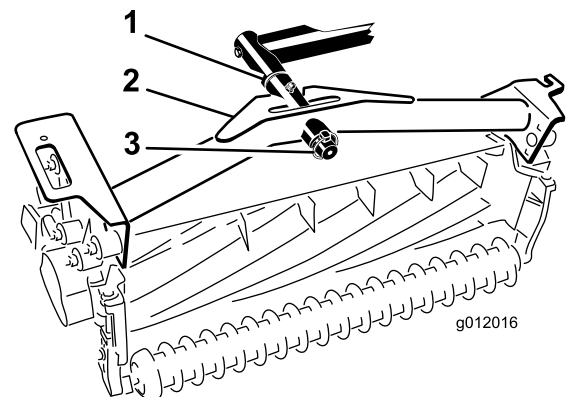

Figure 20
- Slide the cutting unit carrier frame onto the pivot rod and secure it with a lynch pin (Figure 20).